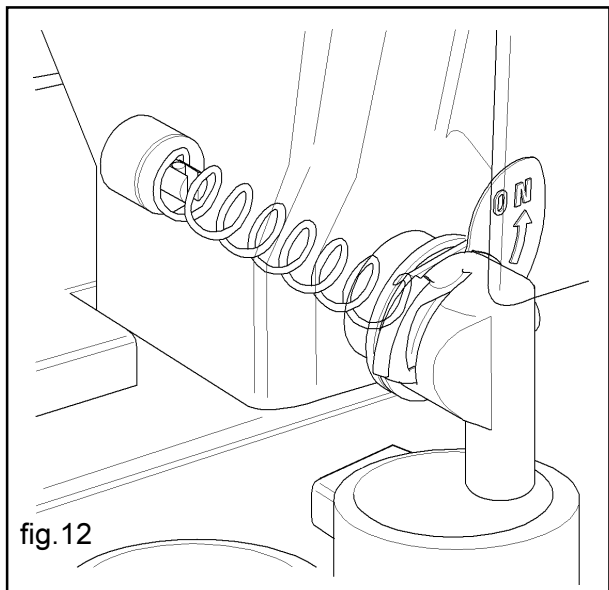

fig. 12
- The instant product gear motor activates the helicoidal screw conveyor so as to dispense the programmed quantity of product into the mixer (fig. 12).